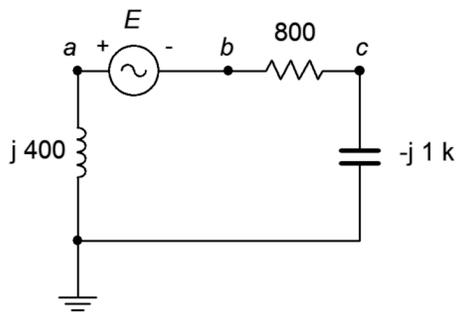

Figure 2.26
44. For the circuit of Figure 2.26, determine  $v_b$ ,  $v_c$  and  $v_{ac}$ .  $E$  is a 1 volt peak 25 kHz sine.